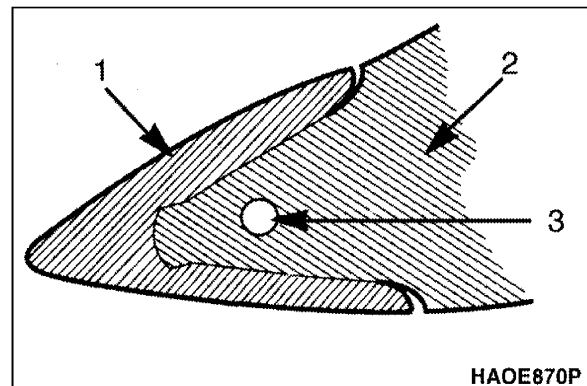

Figure 25 1. POINT, 2. ADAPTER & 3. PIN
2. Do not allow the replaceable bucket teeth to wear down to the point that the bucket adapter is exposed. See Figure 25.